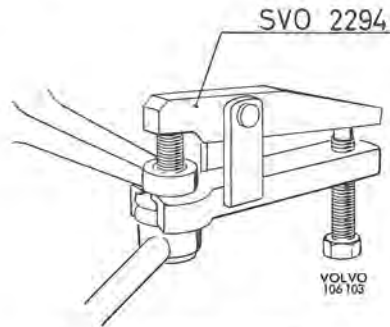

Fig. 6-15. Removing steering rod
3. Disconnect the steering rods from the steering arms with tool 2294 according to Fig. 6-15.
3. Remove the steering rod from the steering arm with tool 2294, see Fig. 6-15.
Disconnect the steering rod from the steering arm with tool 2294, see Fig. 6-15, and remove the brake lines from the stabilizer bolt.